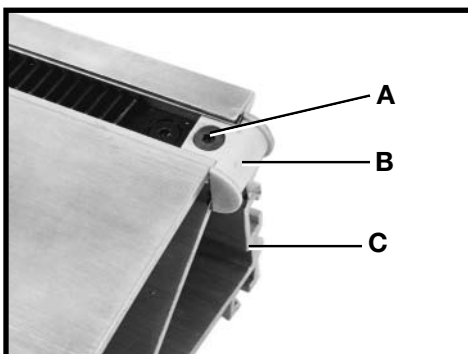

Fig. 13
1. Loosen and remove screw (A) Fig. 13 and belt guide (B) from the **RIGHT END** of duplicator rail (C).